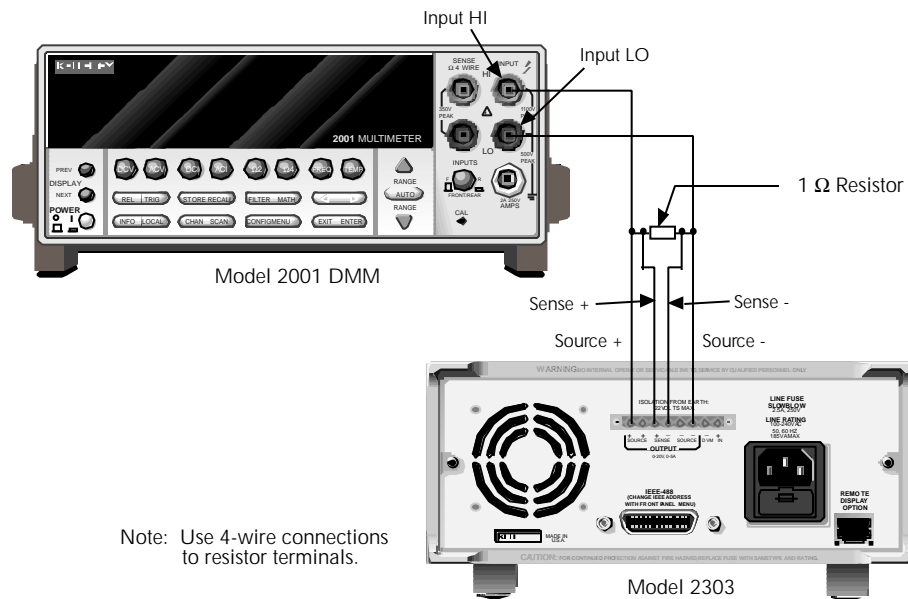

Figure 1-3
1. With the power off, connect the digital multimeter to the Model 2303 OUTPUT SOURCE terminals, as shown in Figure 1-3. Be sure to observe proper polarity (SOURCE + to INPUT HI; SOURCE - to INPUT LO).
1. With the power off, connect the digital multimeter and characterized 1Ω resistor to the Model 2303 OUTPUT SOURCE terminals, as shown in Figure 1-3. Be sure to observe
1. With the power off, connect the digital multimeter and characterized 1Ω resistor to the Model 2303 OUTPUT SOURCE terminals, as shown in Figure 1-3. Be sure to observe proper polarity (SOURCE + to INPUT HI; SOURCE - to INPUT LO). Also be sure to use 4-wire connections to the resistor terminals.